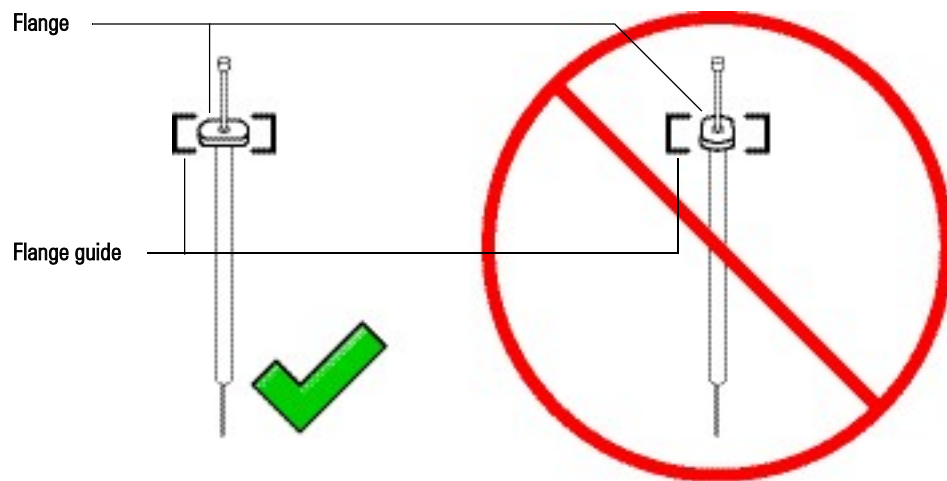

Figure 52 Syringe flange orientation
- 7 Align the syringe flange with the flange guide and press the syringe into place, keeping the needle end in the guide hole of the needle support foot. Make sure that the flat edge of the syringe flange faces out (Figure 52).